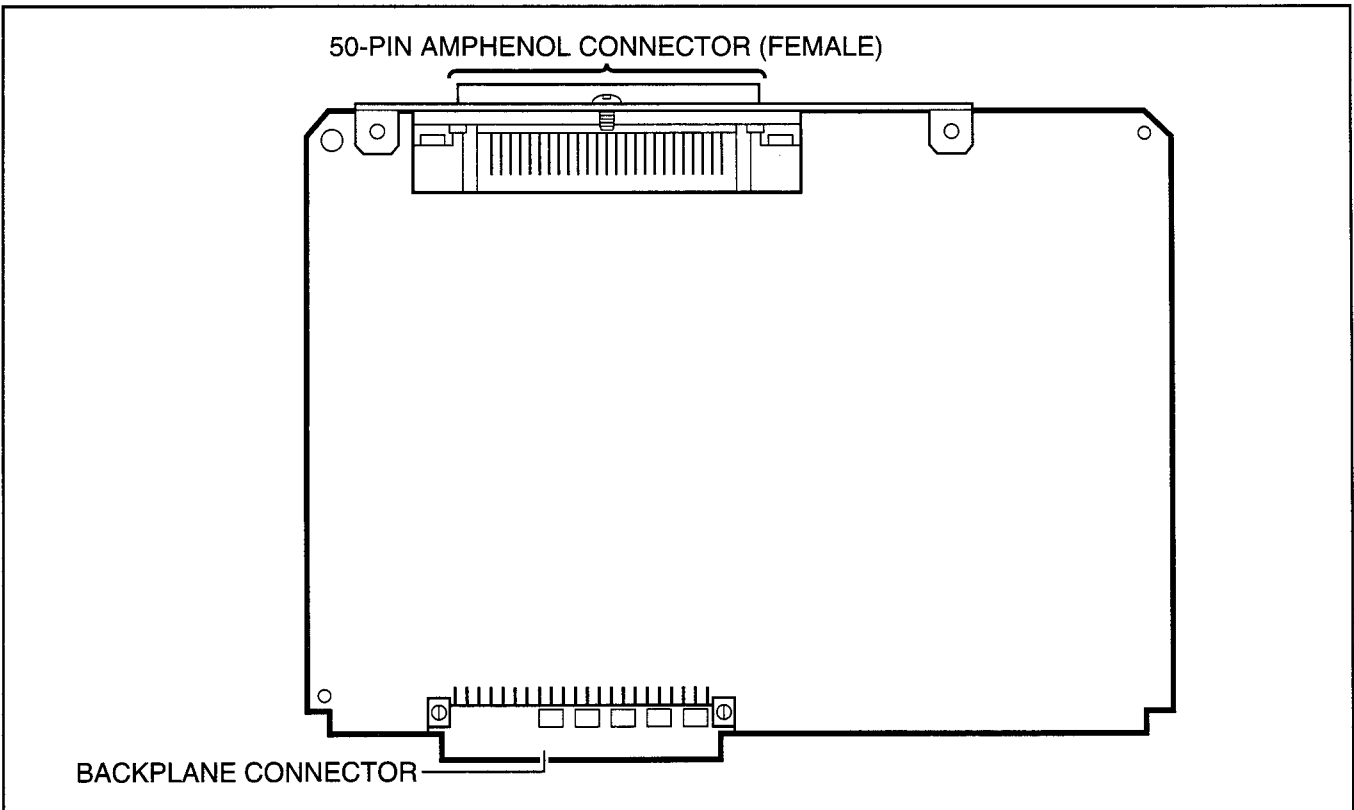

FIGURE 5-12
7.01 The Digital Telephone Interface Unit (PDKU) provides eight ports/circuits for digital telephones and it can only be installed in the Expansion Unit. The PDKU can also support Integrated Data Interface Units (PDIU-DIs/PDIU-DI2s), Stand-alone Data Interface Units (PDIU-DSs), a Digital Door Phone/Lock Control Unit (DDCB), a Digital Direct Station Selection Console (DDSS), and Add-on Modules (ADMs). The DDSS console, DDCB, and PDIU-DSs are wired directly to the PDKU and require no additional hardware, but do require their own dedicated ports/circuits. The PDIU-DI/PDIU-DI2 or the ADM shares with its accompanying digital telephone the same wire pair and circuit on the PDKU. The PDKU (Figure 5-12) has no controls.